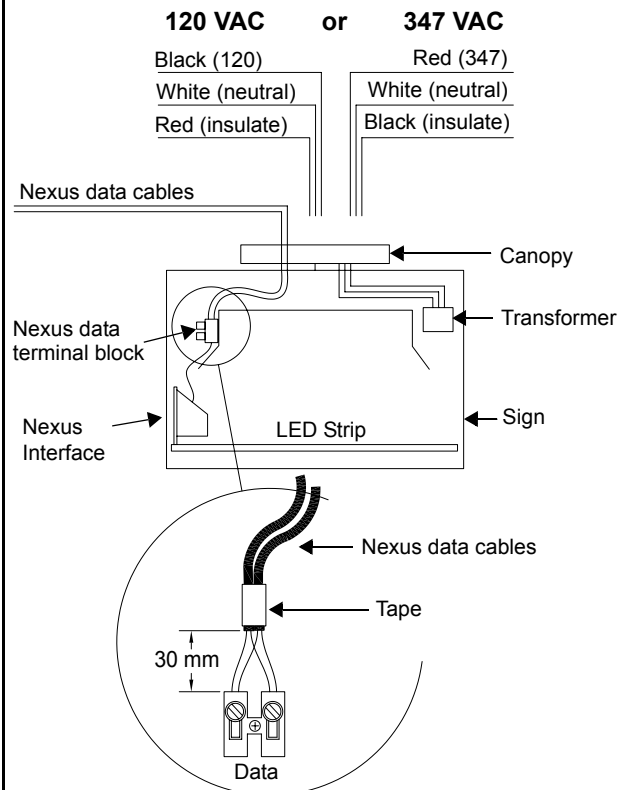

Figure 7
**Note —** For the Nexus models wiring, go to the section “Nexus Models” (see fig. 7).
- Note —** For the Nexus models wiring, go to the section “Nexus Models” (see fig. 7).
Refer to figure 7 for the wiring of Nexus models.